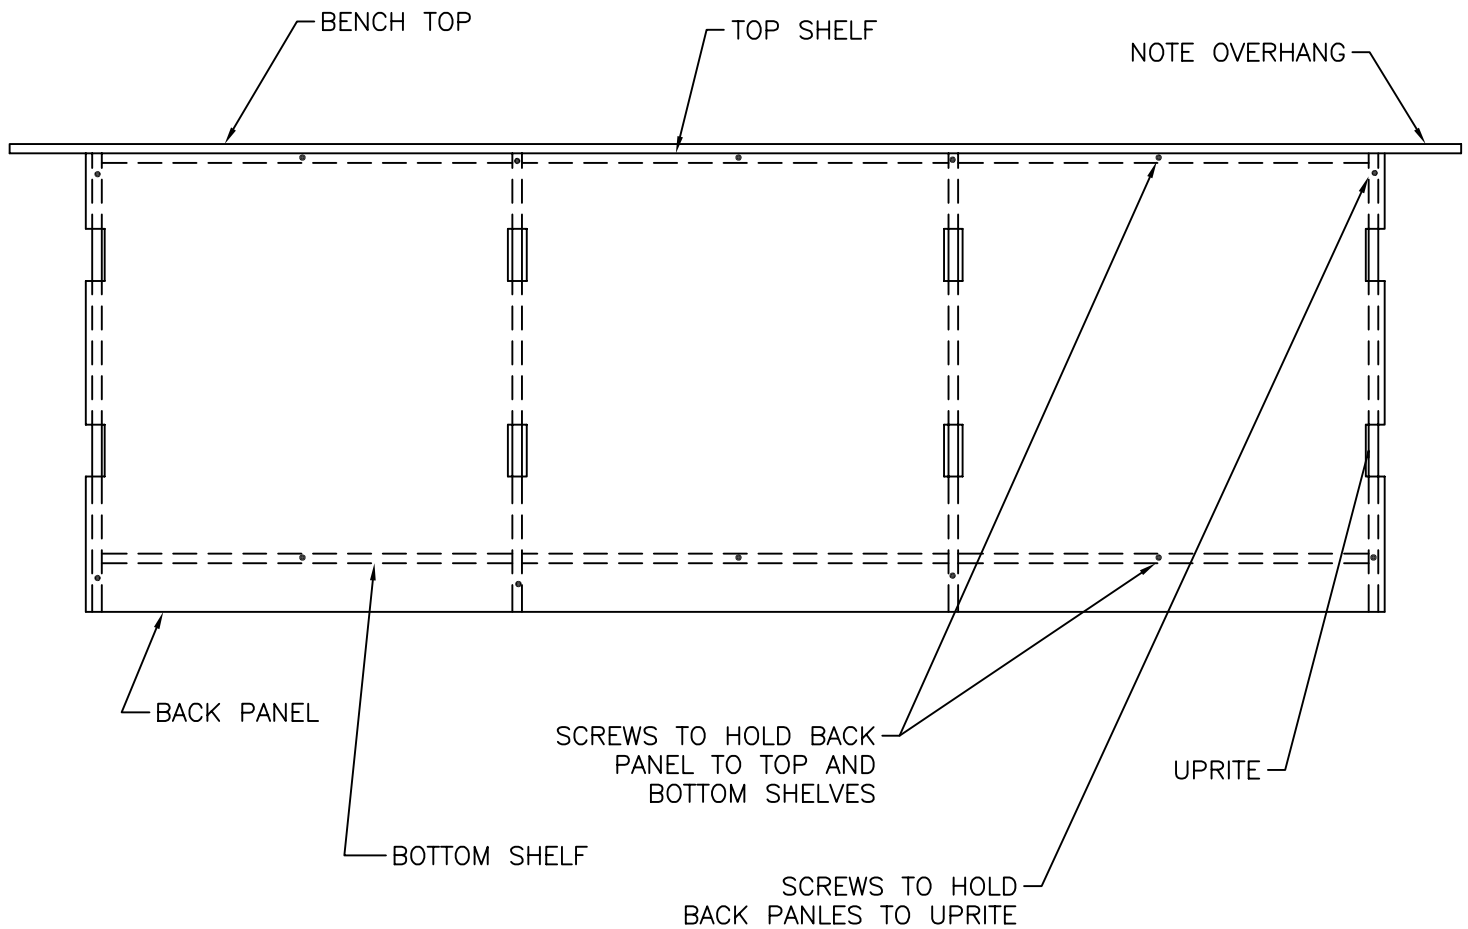

FIGURE 3
STEP 2: Position the Bench Top Assembly so it rests on the top shelves with all overhang (approx. 3") in front and equal overhang on each end. (6" on 4' unit, 12" on all others). (See FIGURE 3)
STEP 3: Drill four (4) pilot holes from the underside of each top shelf through the shelf into the top assembly and secure the top assembly to the shelves with #8 x 1 1/4 screws provided.
STEP 4: Attach the hardboard back to the top and bottom shelves, with Sheet Metal Screws. (See FIGURE 3)